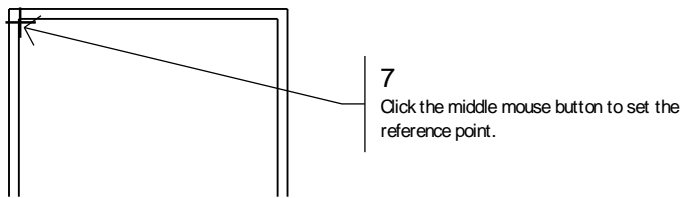

Figure 3.46: Setting a reference point.
7. Move the cursor to the top left corner of the interior wall, as shown in Figure 3.46 and click the middle mouse button to set the reference point. You are prompted to *Select center of window.*